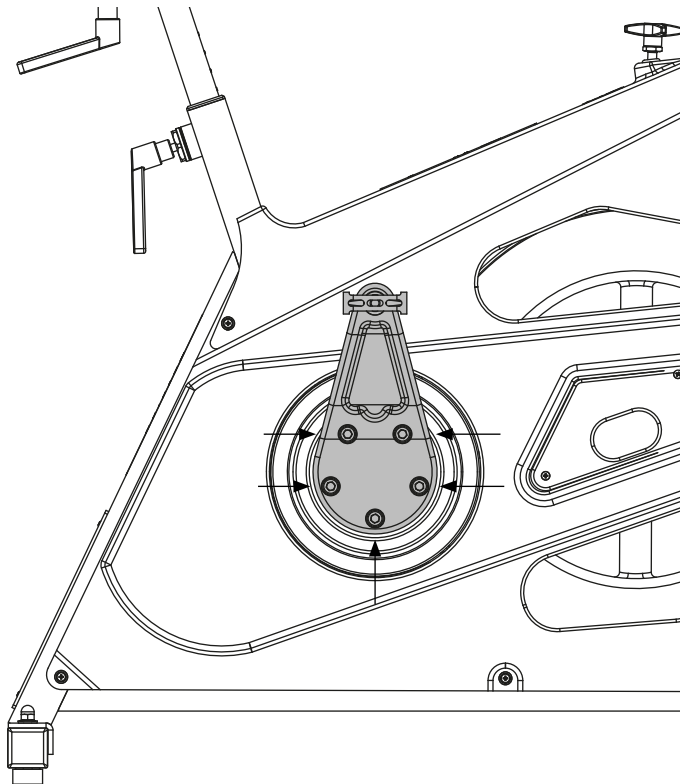

Figure 14
- 1) Dismount the right pedal arm with an 8mm Allen wrench. See figure 14.